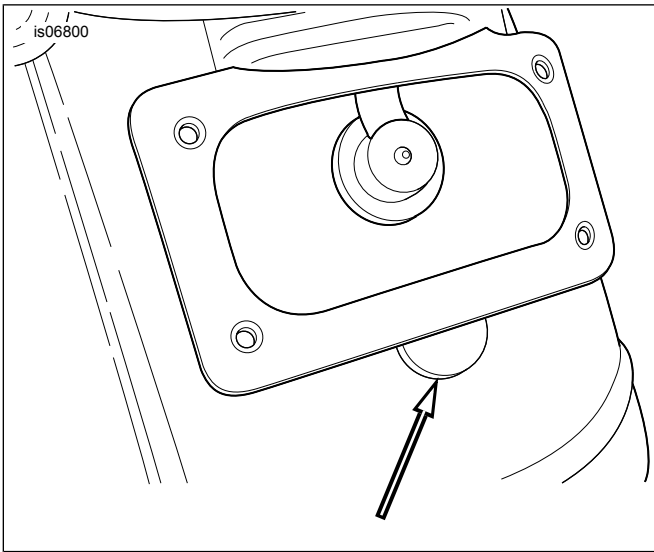

Figure 3. Bumper Pad Locations
5. See Figure 3. Place the 1.3 mm (1/2 in) bumper pads between the installed back plate and the rear fender bumper.